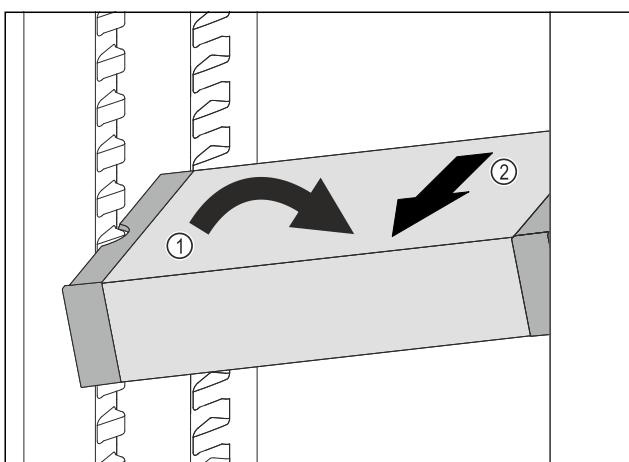

Fig. 93
- ▶ Set VarioSafe in refrigerator compartment at an angle. Fig. 93 (1)
- ▶ Take VarioSafe out to the front. Fig. 93 (2)